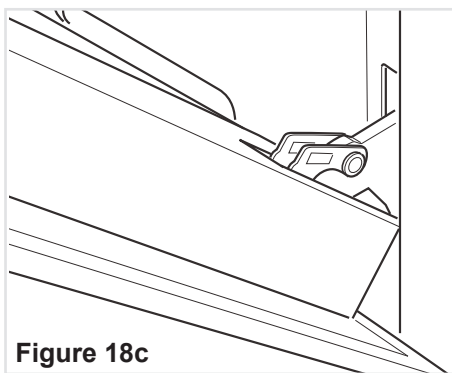

Figure 18c
1. Make sure the door is locked open (see fig. 18c).